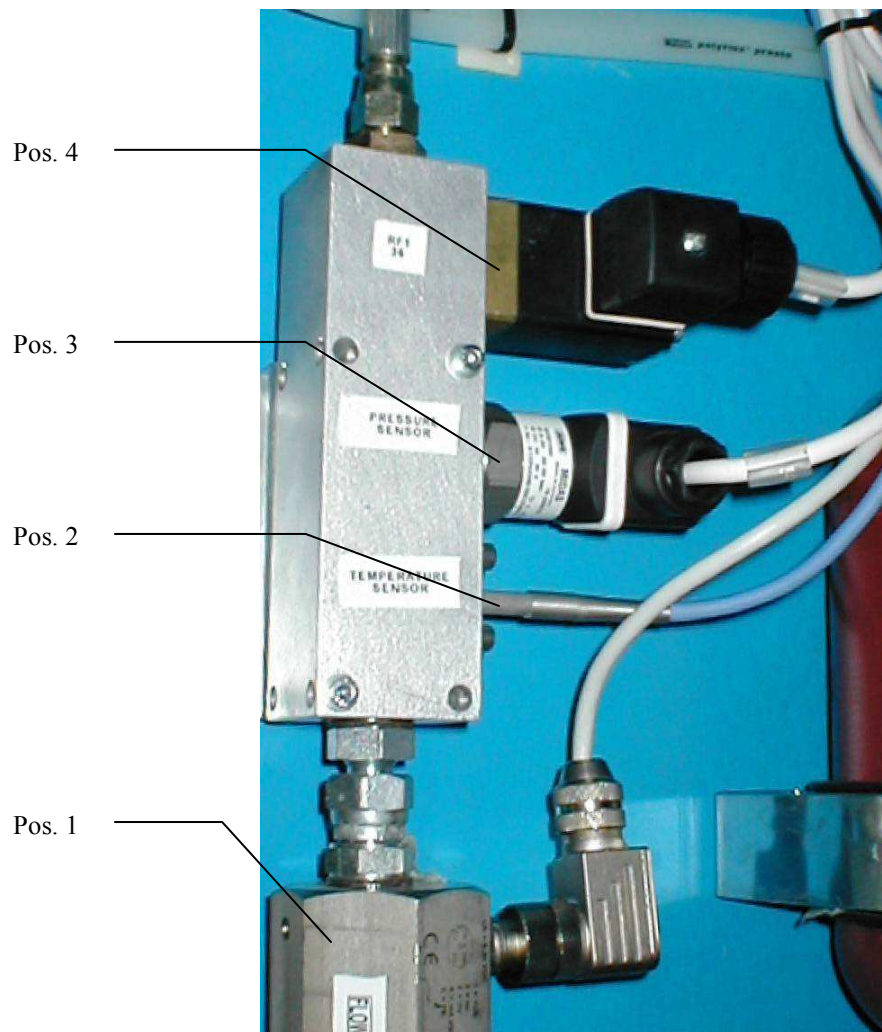

Figure 2.8 Refrigerant metering system.
The refrigerant metering system is installed on the left side of the machine structure (fig. 2.8) and it is equipped with the following components:
- * Flowmeter (pos. 1 fig. 2.8)
- * Temperature sensor (pos. 2 fig. 2.8)
- * Pressure sensor (pos. 3 fig. 2.8)
- * Refrigerant solenoid valve (pos. 4 fig. 2.8)